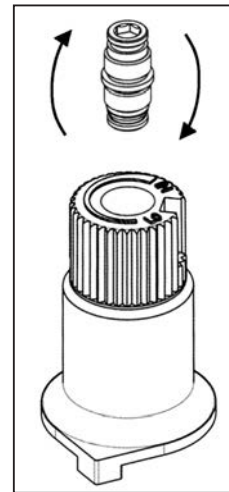

Figure 12: Flip valve screw.
- e) Flip the screw (refer to Figure 12).